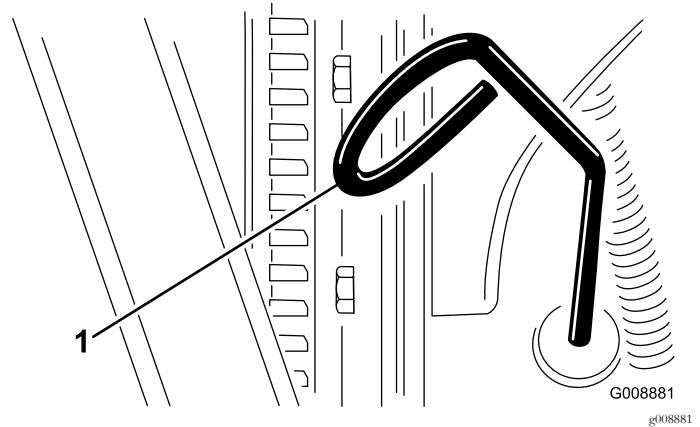

Figure 20
3. Remove the dipstick, wipe it clean, and install it (Figure 20).